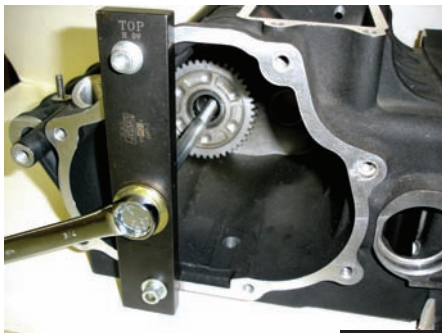

FIG 2
2. Attach the installation bar tool No. **987-2** to the trap door side of case. Use two allen screws with washers H-D No.**3249** from existing trap door mounting hardware. **See Fig 2** for door mounting holes to locate plate correctly on case. Also, the plate has been laser marked with "Top" on the plate and should face you.
See Fig 2.
3. Install No. **1735** onto No. **2138** 12" long screw then insert through center hole of No. **987-2** installation bar and into case, through the mainshaft gear. **See Fig 2.**
Caution: *When performing the next step of removing the gear from the bearing you may encounter some resistance beyond what this tool can handle and could damage the case. If you feel a binding stop and apply heat to the bearing race as shown. Do not exceed 210 degrees. This should free up the gear. If that doesn't work it will be your decision on how to extract the main drive gear and bearing. See Fig 2 & 4*